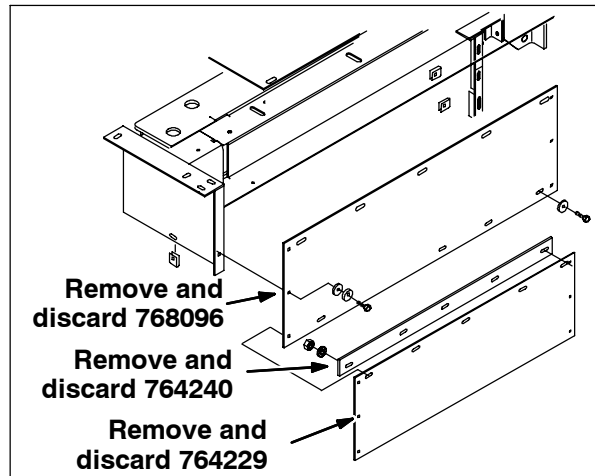
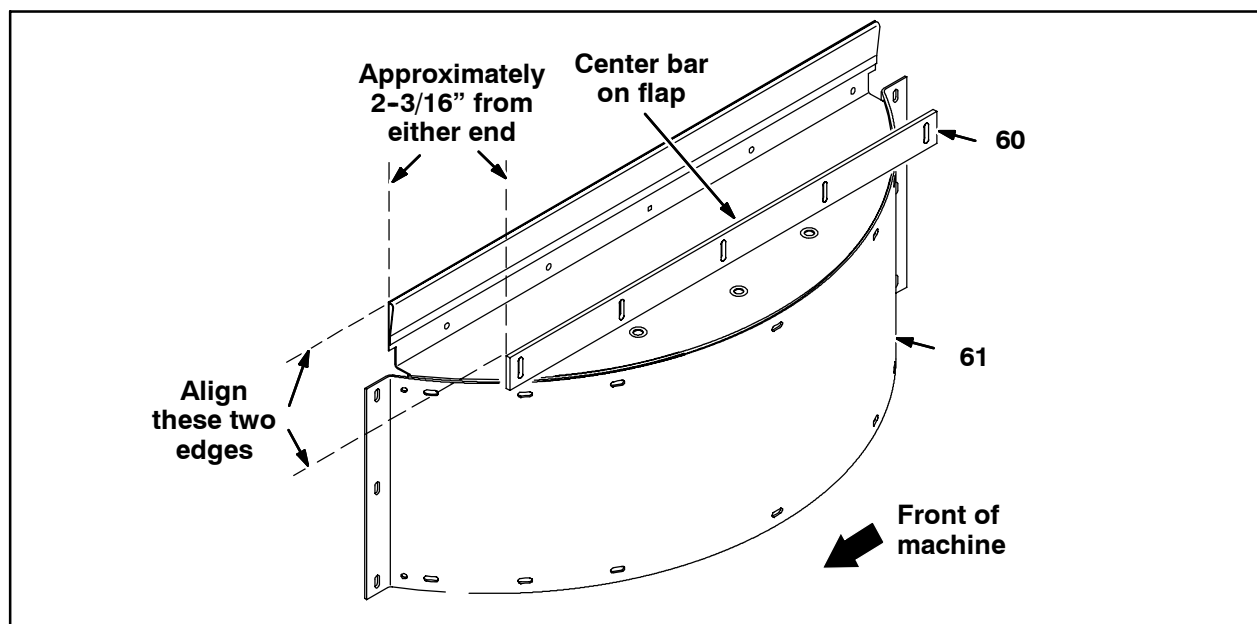

FIG. 7 - Left Hand Dust Skirts
FIG. 8 - Cover Assembly
1. Remove the flat cover (768096) to access the side brush area. Refer to Fig. 7.
2. Install the stop bolt (1) and jam nut (46) onto the angle under the machine frame by the bearing boss.
(Refer to Fig. 7, Fig. 8, and Fig. 9)
1. Remove and discard the left hand main brush door cover. Refer to Fig. 7.